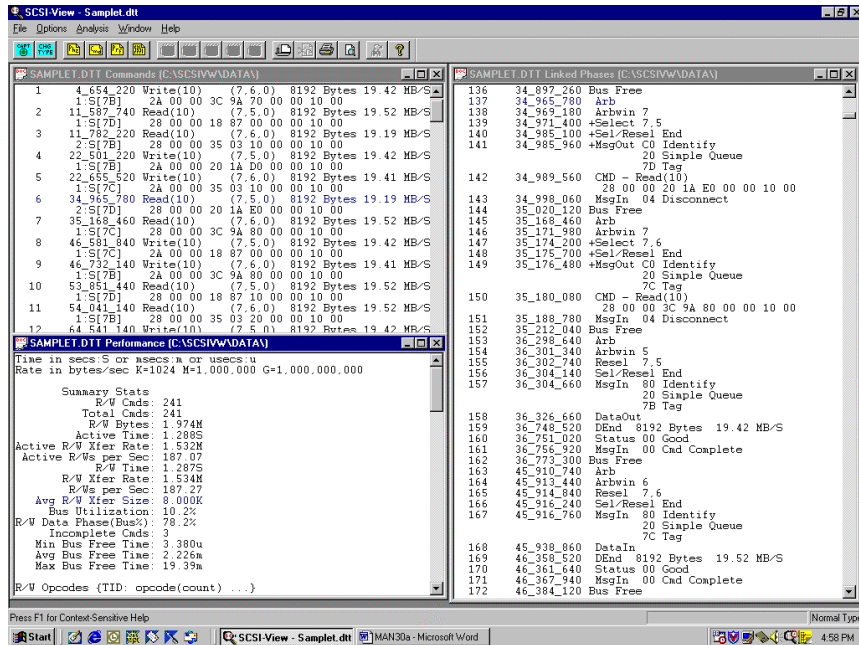

Figure 3
**SCSI-View is a passive SCSI observer**, and does not alter SCSI bus activity. Once it is plugged into the target SCSI bus, SCSI-View can immediately display detailed analysis information. Separate windows display SCSI performance, tagged queuing and protocol analysis as soon as SCSI activity begins. All analysis and display takes place in real time as SCSI events unfold. Figure 3 shows a typical SCSI-View screen with **Performance**, **Command** and detailed **Phase Views** enabled. The user can add, delete and size multiple analysis windows at will. Windows for both the current active capture session and previous capture files can be displayed side by side on the screen.